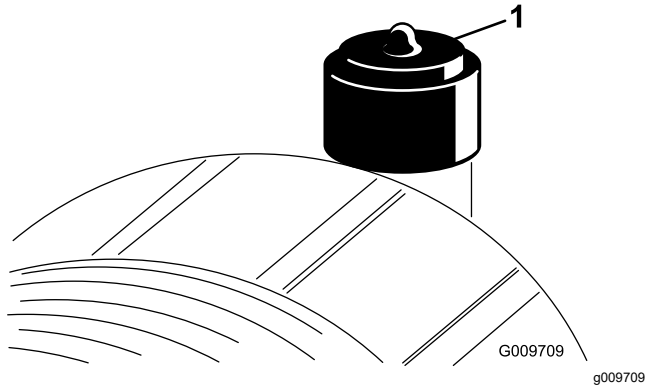

Figure 72
Service the air-cleaner filter only when the service indicator (Figure 72) requires it. Changing the air filter before it is necessary only increases the chance of dirt entering the engine when the filter is removed.
- Reset the indicator (Figure 72) if it shows red.